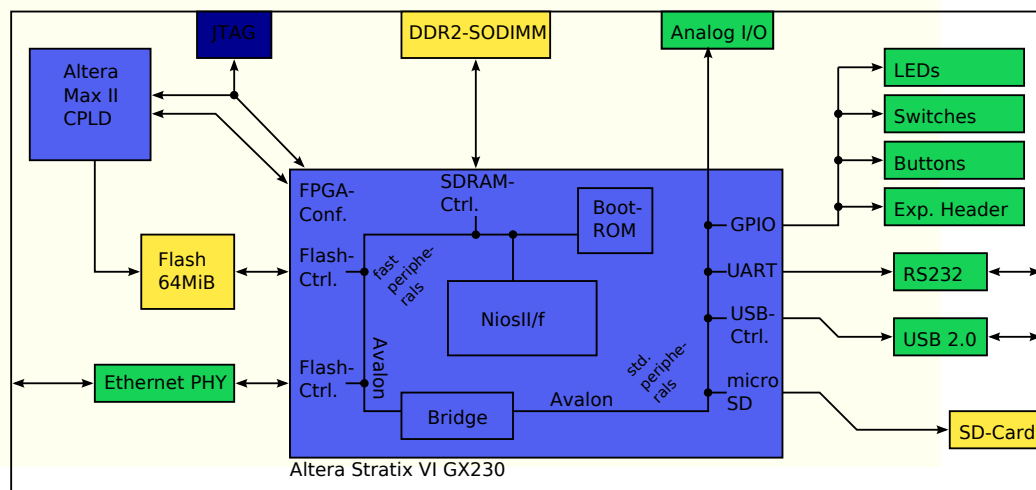

Figure 2: System-on-Chip Blockdiagramm
We preconfigured the Altera Stratix IV with a System-on-Chip based on the Altera Nios-II/f microprocessor including a MMU. This way the system can run a modern operating system (OS), GNU/Linux. The System-On-Chip connects to one of the two on-board DDR2-SoDIMM slots and is configured to use 256 MB as main memory, 64 MB on-board parallel flash, a SD-Card in SPI mode, one of the four Gigabit Ethernet as Eth0 device, a USB 2.0 compliant High Speed only host, one EIA232 standard UART and several GPIOs. The blockdiagram in Figure 2 shows how these peripherals are connected to the main CPU using the Altera Avalon bus.